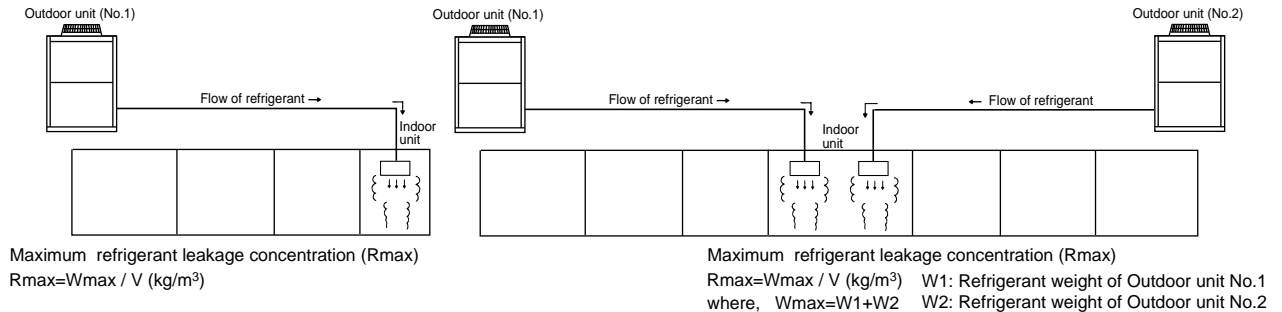

Fig. 8-1 The maximum refrigerant leakage concentration
(2) Confirm the Critical concentration and take countermeasure
The maximum refrigerant leakage concentration (Rmax) is defined as the result of the possible maximum refrigerant weight (Wmax) leaked into a room divided by its room capacity (V). It is referable to Fig. 8-1. The refrigerant of Outdoor unit here includes its original charge and additional charge at the site.